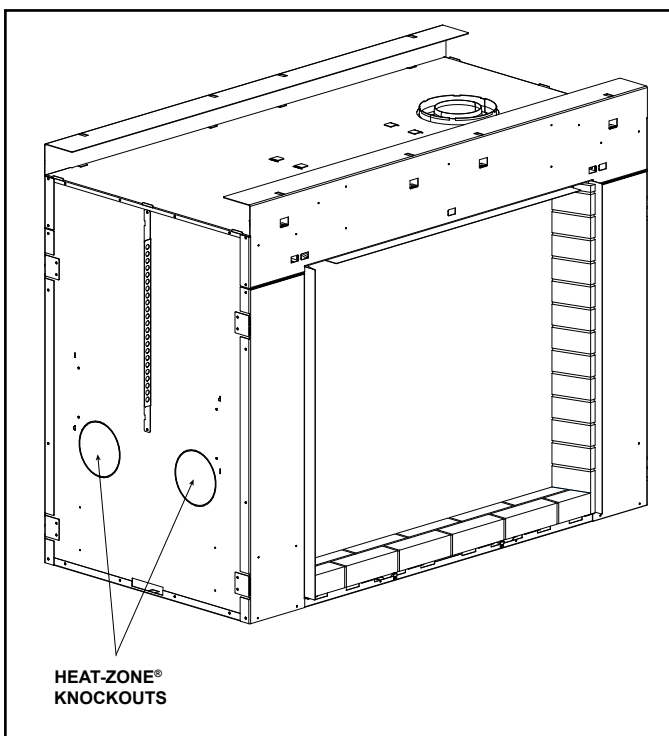

Figure 11.8 Heat-Zone® Gas Knockouts.
1. Remove the knockout from the side of the appliance and discard it. See Figure 11.8.